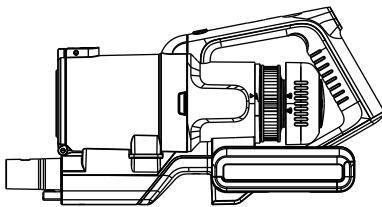

Fig. 19
7. To clean or replace the post-motor filter, turn the cover anticlockwise and lift off the cover (fig. 19), remove the filter (Fig. 20), wash and dry the filter in accordance with step 4.